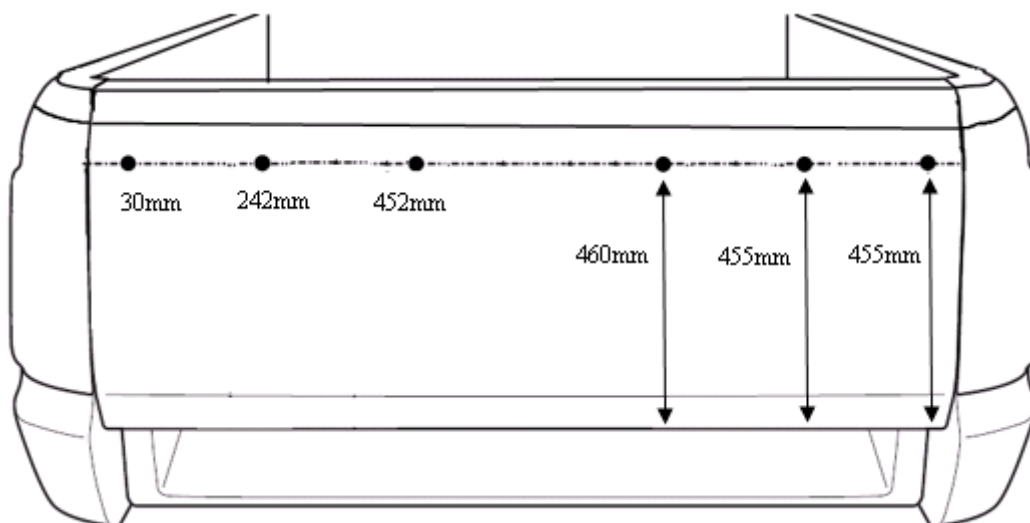

Figure 2
2. Fit Round Body Hooks (Buttons) to Tailgate. **See Figure 2**